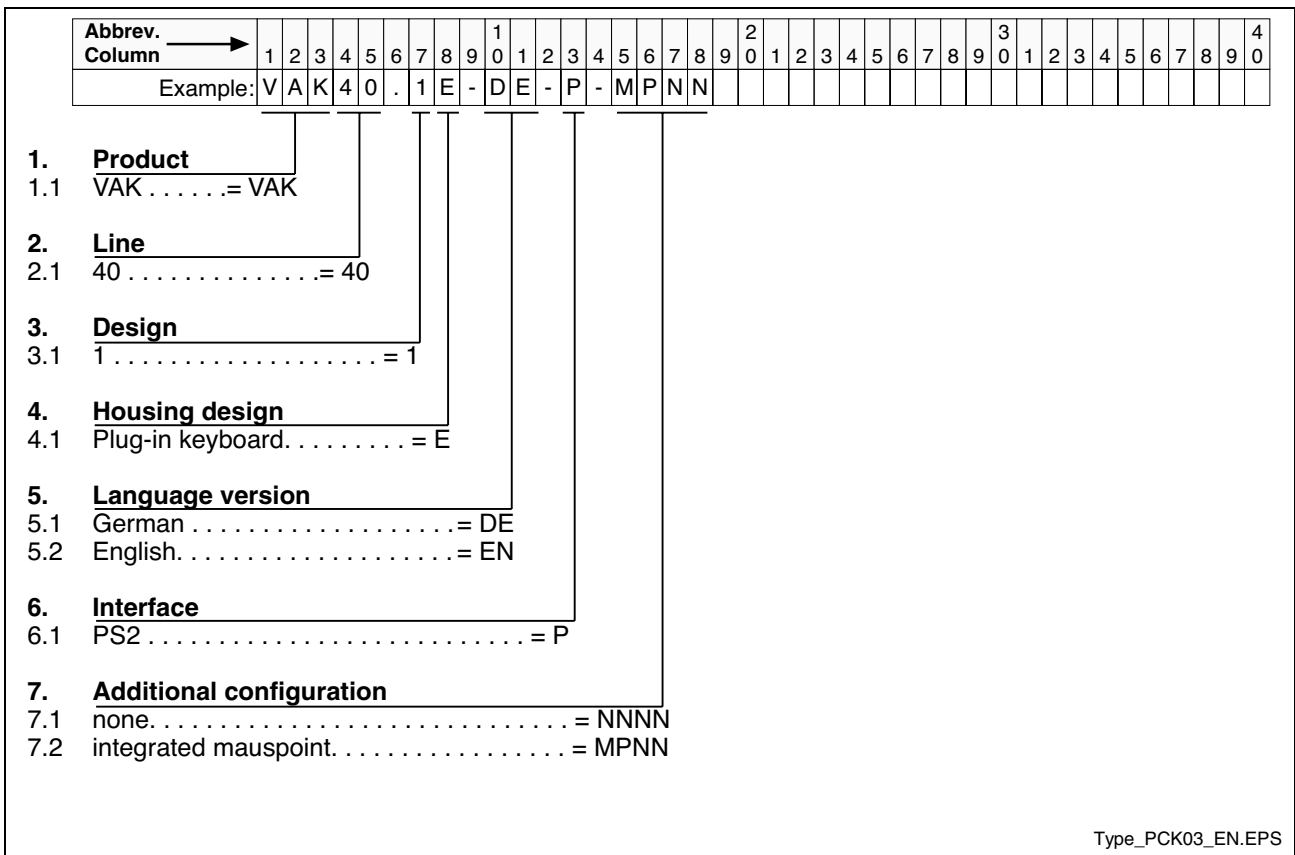

Fig. 8-2: Type code VAK 40.1
- Fig. 8-2: Type code VAK 40.1 8-2